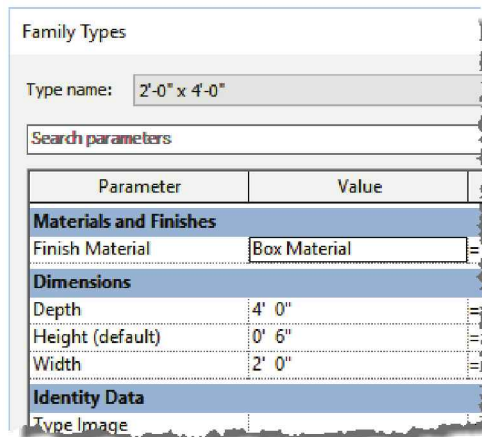

FIGURE 18-5.5A First type settings
- Using the *Name* drop-down list, switch back and forth between the two options; notice the *Parameter Values* change (Figures 18-5.5A and B).